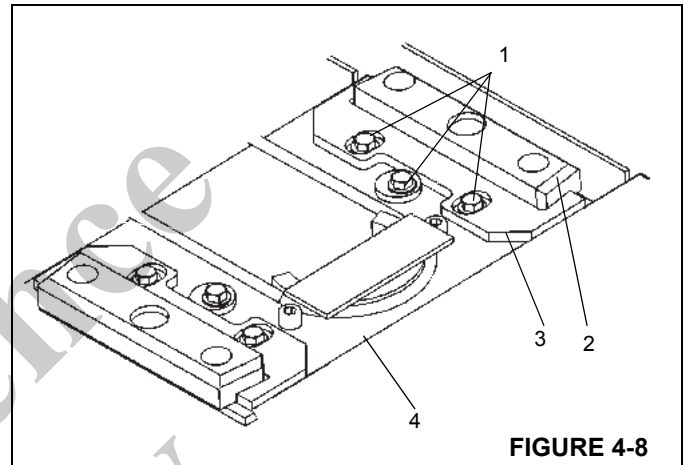

FIGURE 4-8
- Remove the capscrews, washers, and offset washers (1) securing each top rear adjustable wear pad (2). Remove the wear pads, keeper plates (3) and capscrews from the top of the outer mid (4) (Figure 4-8).